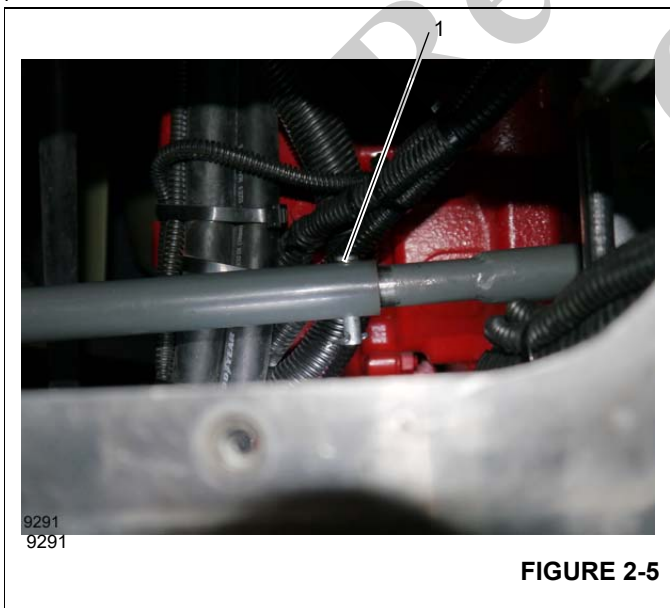

FIGURE 2-5
2. Remove the cotter pin from the retaining pin (1, Figure 2-5) in the two piece shift rod.